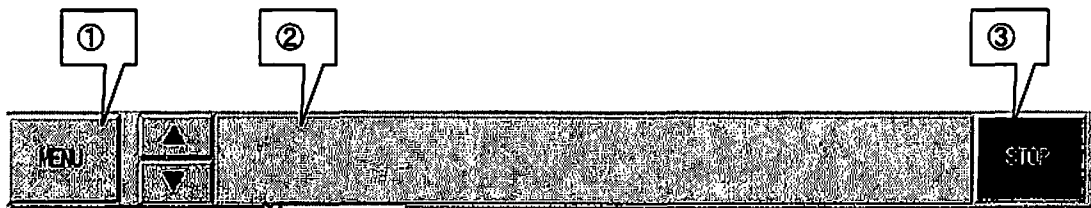

Fig. 14-4-6(4). Contents, alarm and stop
- ① . . . jumps to the reel L and R unit
- ② . . . jumps to the traverser unit
- ③ . . . jumps to the tensioner unit
- ④ . . . jumps to the up and down unit
- ⑤ . . . jumps to the rocking unit
- ⑥ . . . jumps to the reel diameter setting page
- ⑦ . . . jumps to the Y setting page (Option)
- ⑧ . . . jumps to the θ setting page (Option)
(3) Contents, alarm and stop . . . Refer to enlarged view shown in Fig 14-4-6(4)